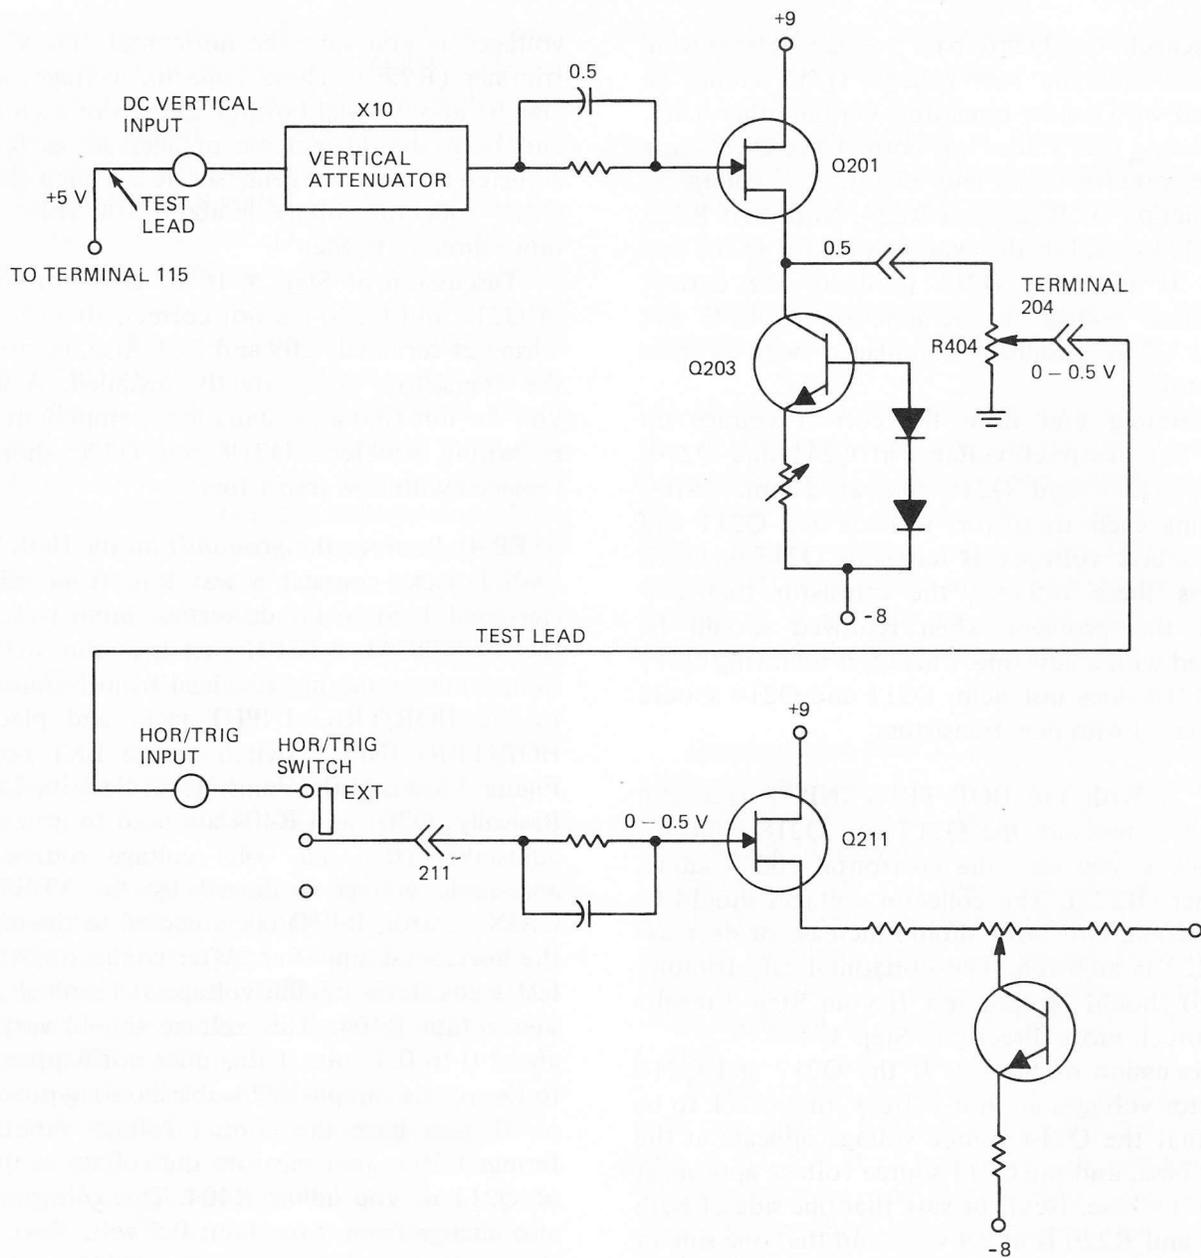

Figure 16. Connections for Step 4 of the horizontal troubleshooting procedure.
**STEP 4:** Remove the ground from the HOR/TRIG INPUT jack, connect a test lead from +5 volts (terminal 115) to the dc vertical input jack, place the VERTICAL ATTEN switch in the  $\times 10$  position, connect another test lead from terminal 204 to the HOR/TRIG INPUT jack, and place the HOR/TRIG INPUT switch in the EXT position. Figure 16 shows the connections described above. Basically, Q201 and R404 are used to generate an adjustable (0 - 0.5 volt) voltage source. This adjustable voltage (adjusted by the VERTICAL GAIN control, R404) is connected to the input of the horizontal amplifier. After connecting the two test leads, measure the voltage at terminal 204 as you rotate R404. This voltage should vary from about 0 to 0.5 volt. If this does not happen, refer to the vertical amplifier troubleshooting procedure.
**Discussion of Step 4:** If the gate voltage of Q211 does not vary as R404 is adjusted, first check the resistance between terminals 204 and 211. You should read 0 ohms. If not, use Fig.16 or the overall schematic in Fig.17 to trace the circuit. If